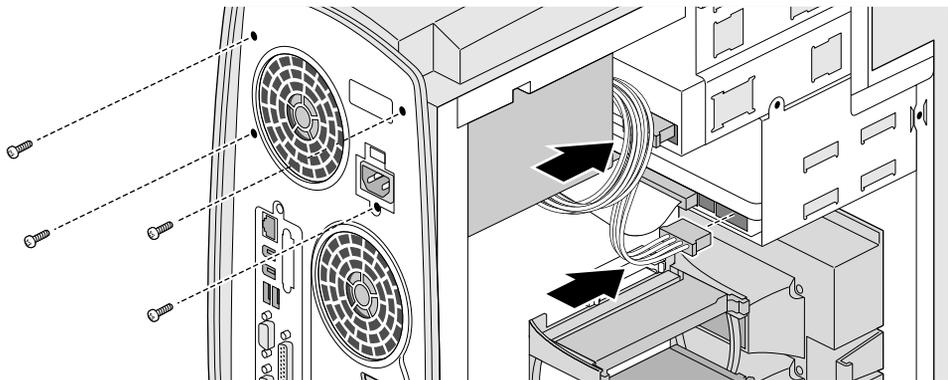

Figure 7-6 Installing the Power Supply Screws and Cables
5. While supporting the power supply with your hand, replace the four screws, as shown in Figure 7-6. Then reattach the power cables to the backs of the internal drives.